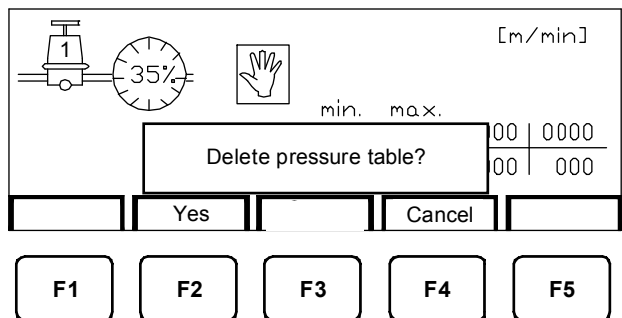

Figure 11-7. Glue-Pressure-Edit Menu with Message
2. Press F2 (Delete). The “Delete pressure table?” message displays (Figure 11-7).